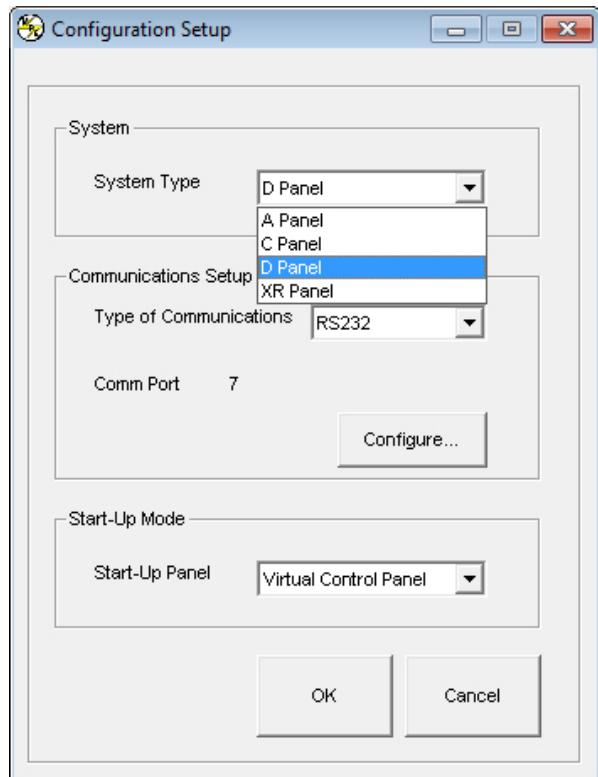

Figure 4.1. RIS Panel Configuration Setup
2. Communications interface: RS232, RS485, IEEE-488 GPIB, LXI TCP/IP Ethernet, simulated, or others depending on future developments. *Figure 4.1, “RIS Panel Configuration Setup”* displays the Applications Setup Window. Address requirements are: